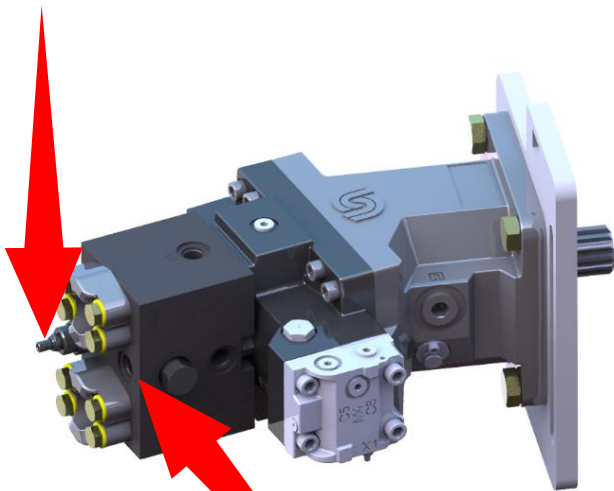

Figure 3
1. Tighten the relief valve to maximum. See Figure 3.